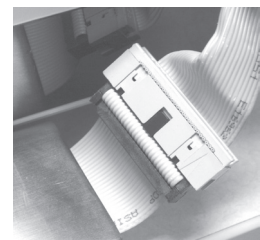

Fig. 6-2
4. Plug tower data ribbon into scale data ribbon (Fig. 6-2).